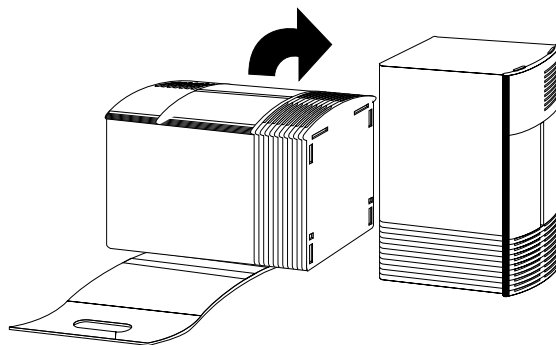

Figure 2-2 Tipping the IRIS Indigo Chassis Upright
- Set the chassis down near the site you selected, then tip the chassis upright, as shown in Figure 2-2.